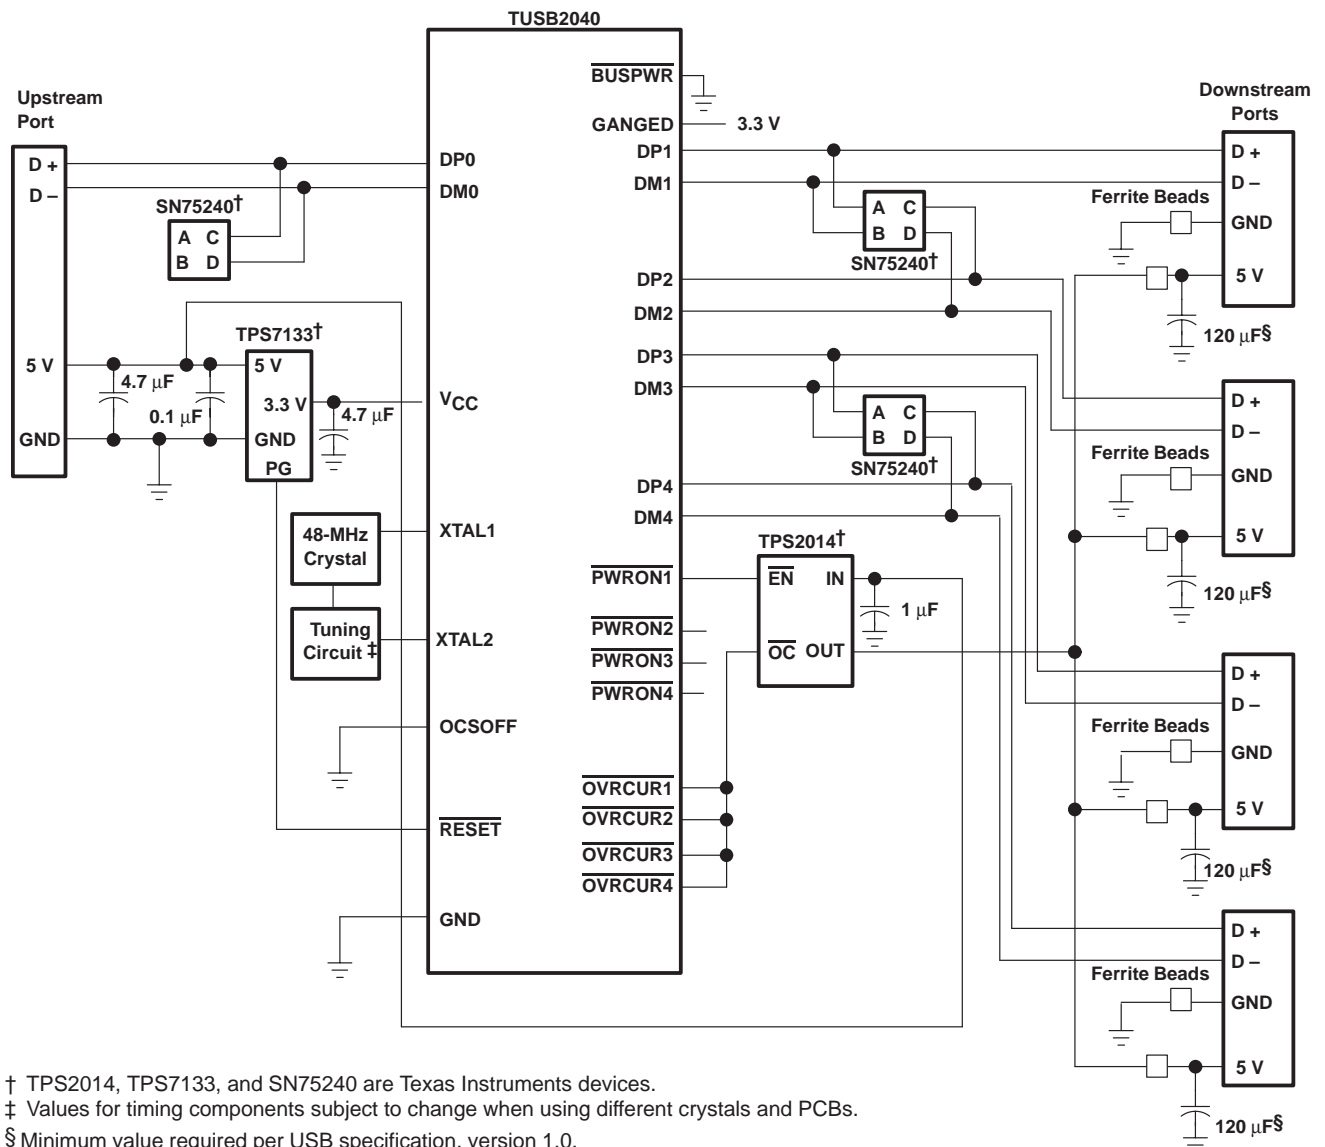

Figure 8. TUSB2040 Bus-Powered Hub, Ganged Port Power Management Application
Using a combination of the `BUSPWR` and `GANGED` inputs, the TUSB2140 supports four modes of power management: Bus-Powered hub with either individual port power management or ganged port power management and the Self-Powered hub with either individual port power management or ganged port power management. Texas Instruments supplies the complete hub solution because we offer this TUSB2040, the TUSB2070 (7-port) and the TUSB2140 (4-port with I²C) hubs along with the power management chips needed to implement a fully USB Specification 1.0 compliant system. See Figure 8, 9 and 10 for example configurations.
A bus-powered TUSB2040 supports up to four downstream ports (operation shown in Figure 8) and is capable of supplying 100 mA of current for low-power device class functions to each downstream port. Bus-powered hubs must implement power switching. Ganged power management (see Figure 8) utilizes the TPS2014 power switch device and provides overcurrent protection for downstream ports. Individual SN75240 transient suppressors reduce in-rush current and voltage spikes. The TPS7133 low-dropout voltage regulator provides a Power Good (PG) signal for reset at power-up. $\overline{\text{OVR}}\text{CUR}1 - \overline{\text{OVR}}\text{CUR}4$ inputs may be tied together for ganged mode operation.